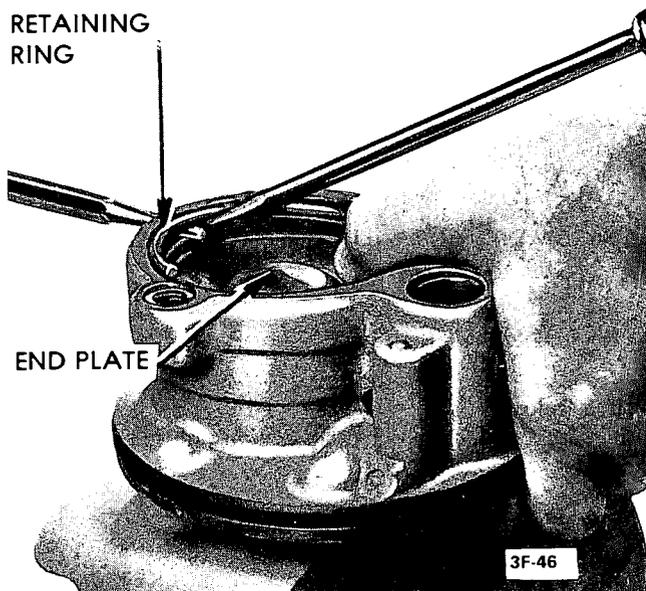

Figure 3F-42 - Removing End Plate Retaining Ring
5. Using proper sized wrenches, remove union and "O" ring assembly and both mounting studs from back of reservoir. Discard all seals and "O" rings. Figure 3F-46.
8. Remove the end plate retaining ring by inserting a small punch in the 1/8 inch diameter hole in the housing side opposite the flow control valve hole. Compress the retaining ring with the punch and remove by inserting a screwdriver under the ring and twisting the screwdriver. Figure 3F-42.